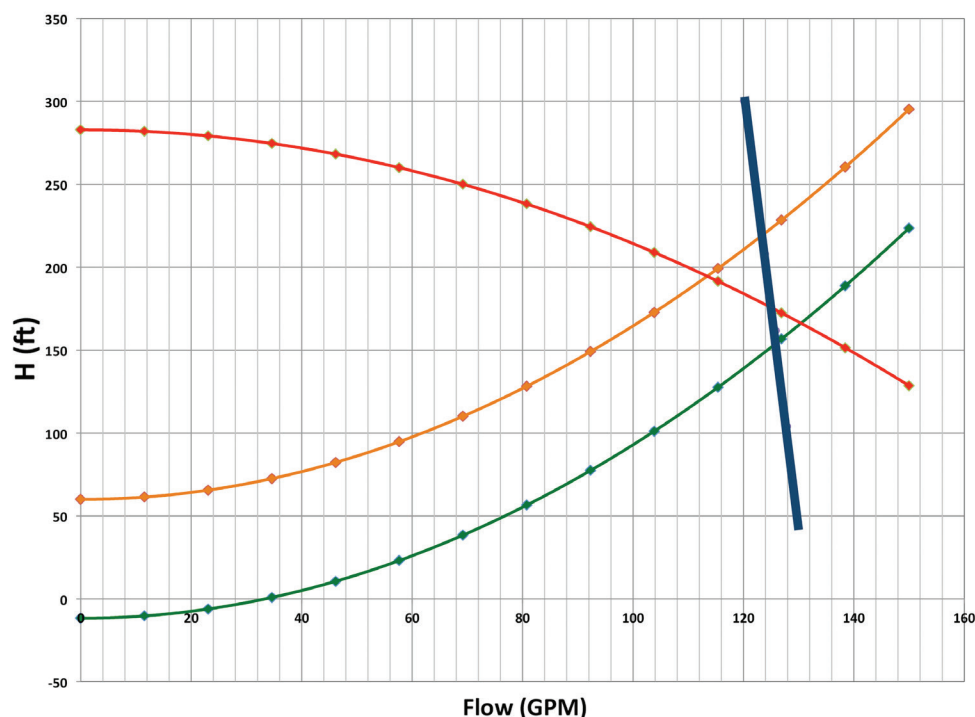

Figure 2
- (1) Pump types compared are: PD Sliding Vane from Blackmer®; Centrifugals are ANSI B73.1, from various manufacturers.
- (2) Yearly Operating Cost is based on 3,000 hours of operation at a rate of \$0.1 per kWh, or \$223 per pump horsepower.
- (3) This example is based on the following performance parameters for the PD Pump: 126 gpm at 80 psig; Centrifugals: Range 114 gpm at 190 feet and 130 gpm at 165 feet. As previously stated, in a transferring process a centrifugal will work in a range. Please see combined operation in Figure 2 (Page 6).